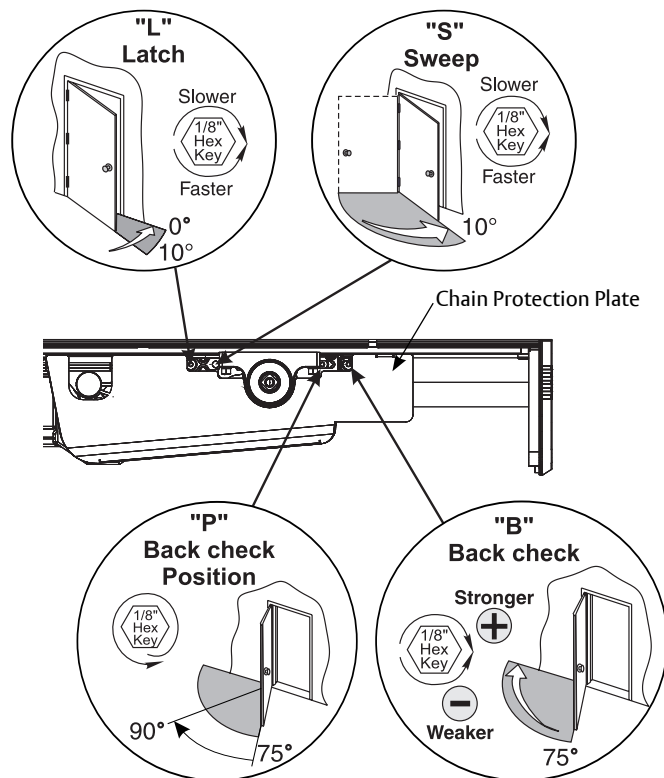

Figure 24 View from ceiling looking down
- Chain protection plate cutouts allow access to valves. Use hex wrench to make adjustments. (Figure 24)
1. Closing Speed Controls (Figure 24)
2. Opening Cycle (Figure 24)